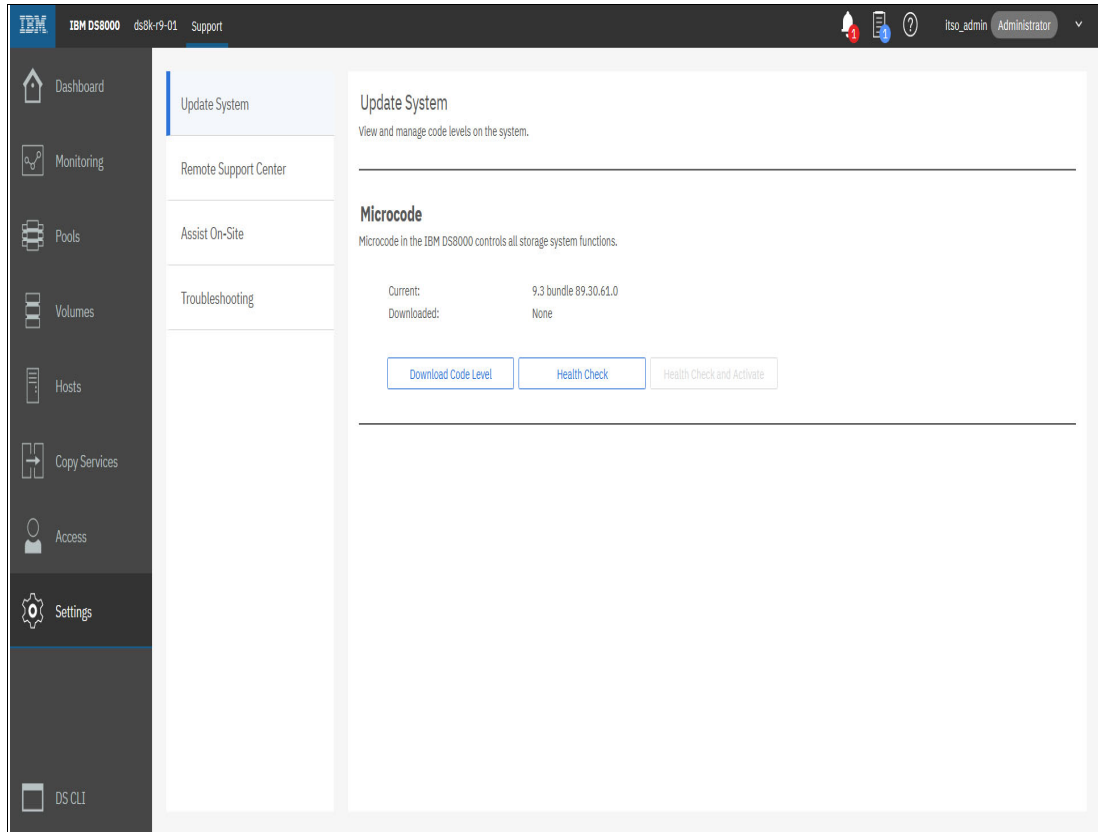
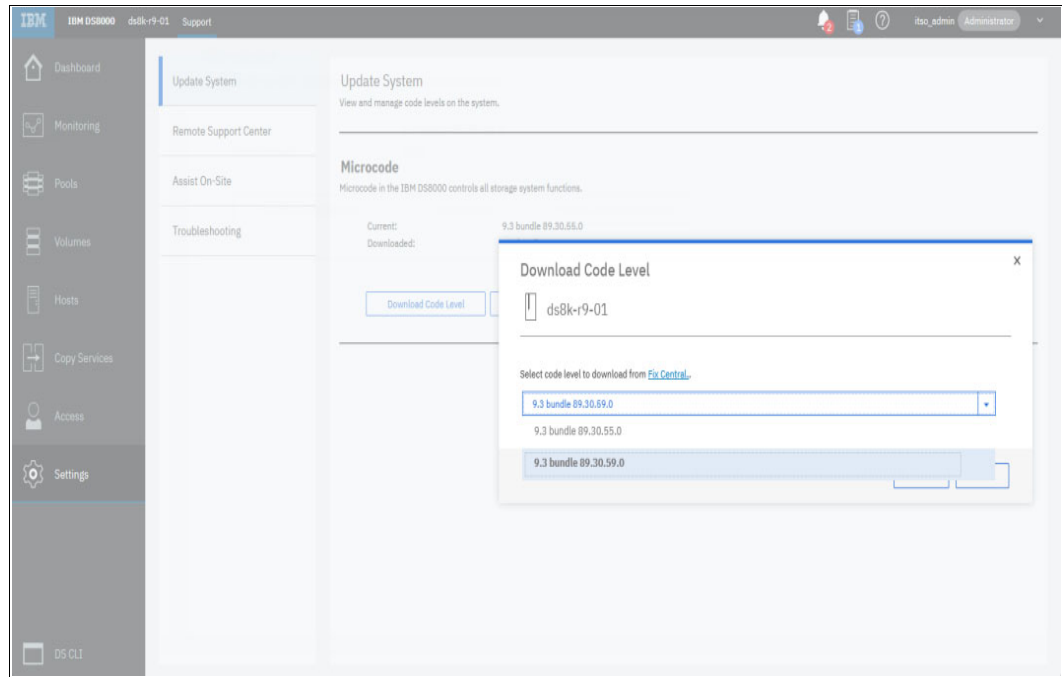

Figure 11-6 Storage Manager GUI: Update System menu
Figure 11-7 Microcode level query
A new menu option is available under **Settings** → **Support** → **Update System**, as shown in Figure 11-6.
Figure 11-6 shows the Update System menu when there are no code bundles downloaded to the DS8000 storage system. The Health Check and Activate option is enabled after the download of the microcode completes.
1. To download the microcode, select **Download Code Level** from the window that is shown in Figure 11-6, which immediately begins a microcode bundle query of IBM Fix Central for a list of codes that the customer can select. This query displays only higher or equal microcode levels compared to the currently installed level on the DS8000 system. After the query completes, a new window opens in the Storage Manager GUI, as shown in Figure 11-7 on page 415.